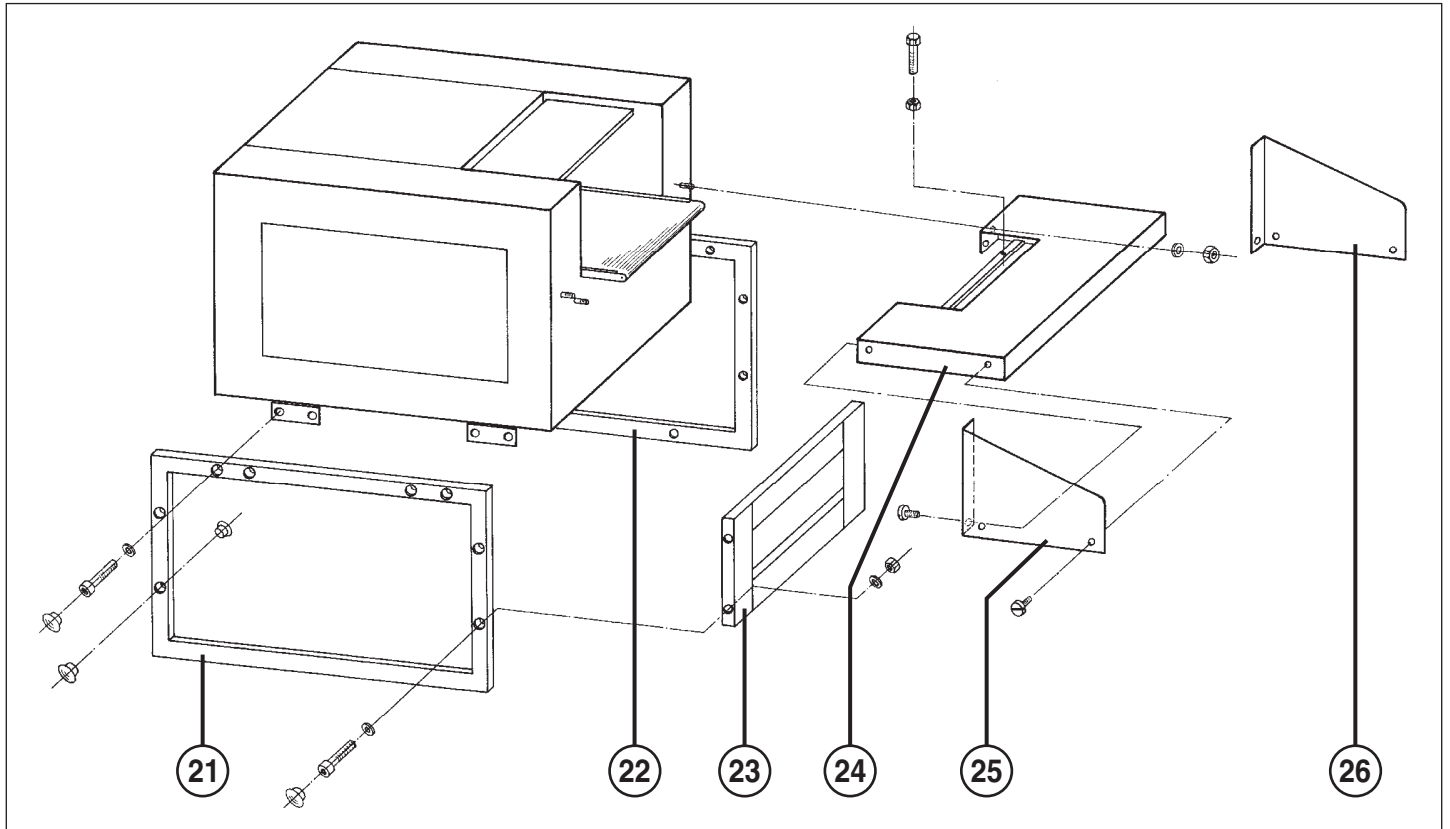

fig. 1
- 21 = Frame left (fig. 1 und 2)
- 22 = Frame right (fig. 1)
- 23 = Cross beam (fig. 1 und 2)
- 24 = Table (fig. 1)
- 25 = Guard panel left (fig. 1 und 2)
- 26 = Guard panel right (fig. 1)
ASSEMBLY OF THE BASE (Fig. 1 and 2):
ASSEMBLY OF THE TABLE (24) (Fig. 1):
4. Guide the power cord for the emergency stop bar (14) through the bush at the front of the left housing panel, and through the screwed joint on the bottom of the switch box. Connect the blue flexible cord to terminal 20 and the brown flexible cord to terminal 19.
ASSEMBLY OF THE GUARD PANELS (fig. 1):